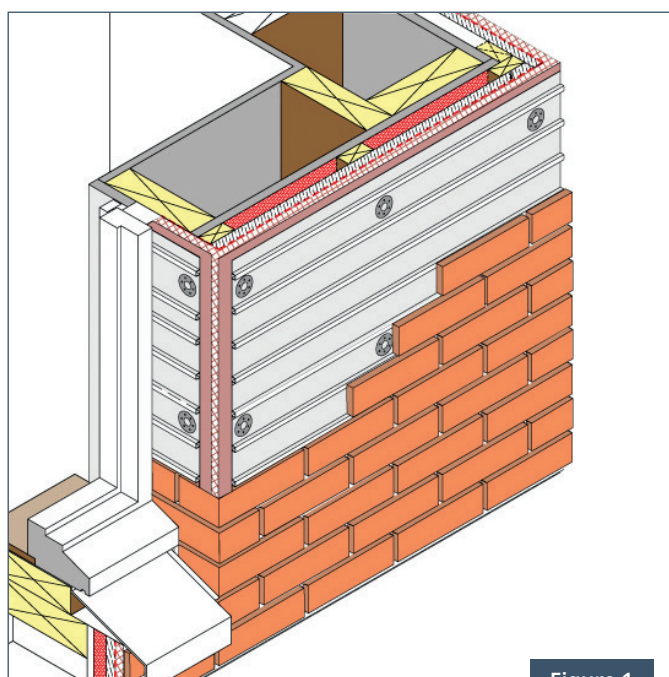

Figure 1
- Sheathing on metal or timber framing – Figure 1